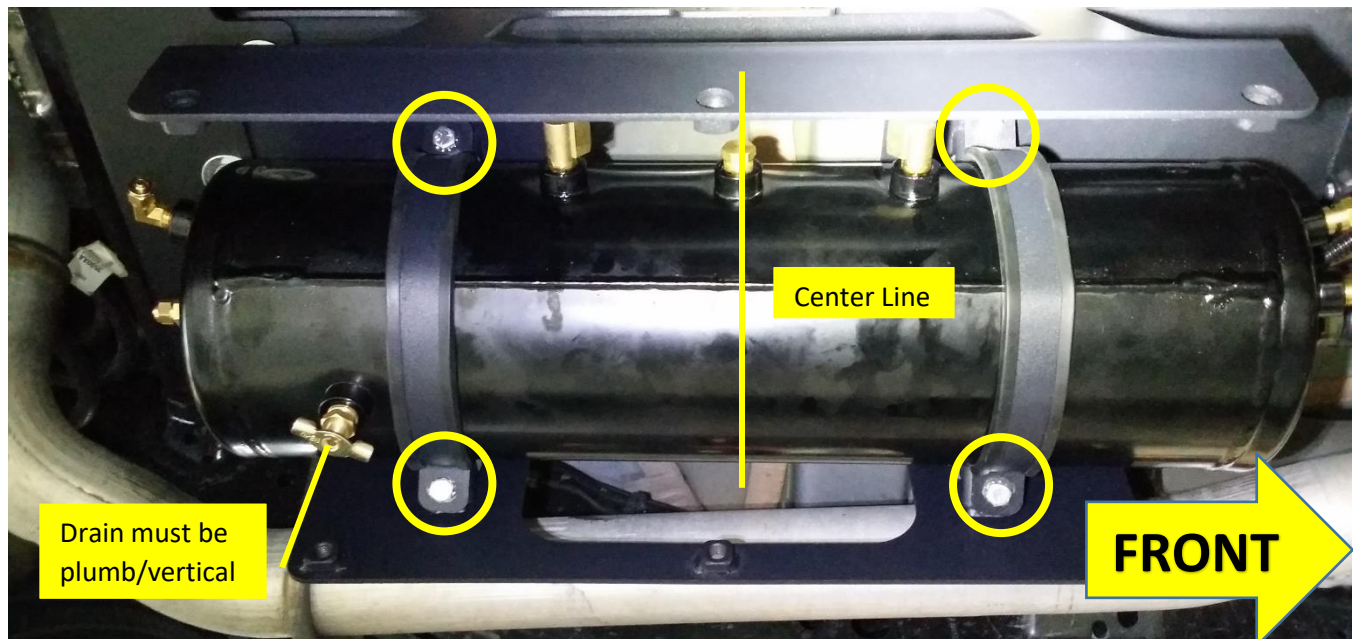

Figure 20 - Air Tank Mounted to JK-201
- 10.4.1. Pull Air Tank Straps away as necessary and lift Air tank into position, with drain facing downwards and towards rear of vehicle, as shown in Figure 20 below.
- 10.4.2. Position Air tank so it is centered within JK-202 straps; adjust as necessary to ensure clearance between drain port and rear Tank Strap of at least 1/8”, as shown in Figure 20 below.
- 10.4.3. While holding Air Tank in place, use remaining hardware #1 (2), #11 (2) & #18 (2), to secure Air Tank to Tank Bracket. Final tighten 1/4”-20 fasteners, as shown circled in Figure 20 below to 37-43 in-lbs.